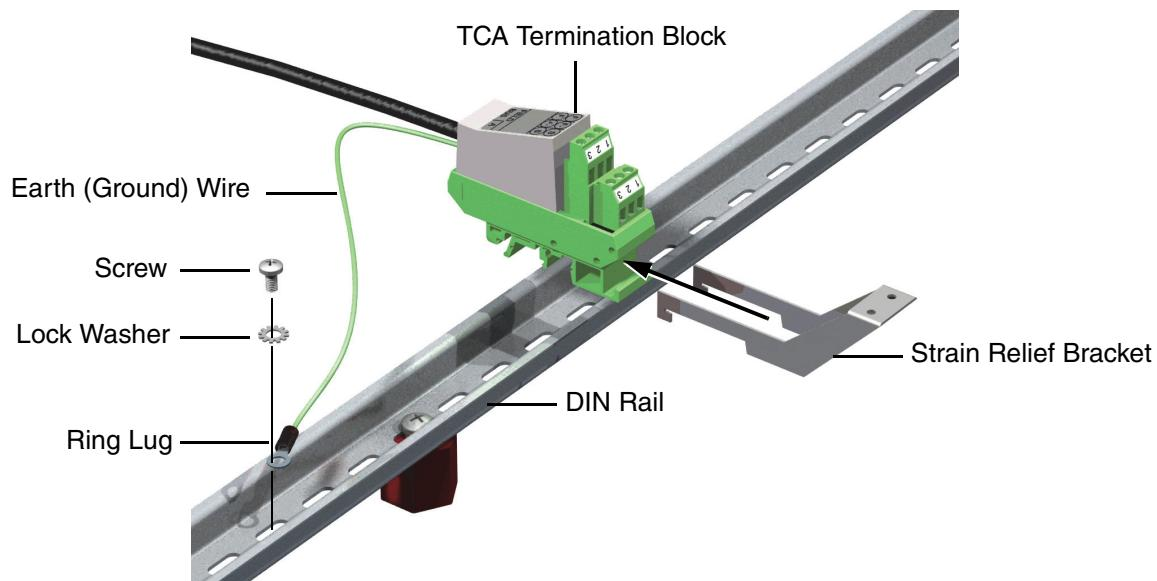

Figure 4-13. TCA Termination Block Assembly Mounting
1. Referring to Figure 4-13, assemble the termination blocks associated with the termination cable assemblies (P0903VY) for the FCP270 baseplate, snap them onto the mounting rails (DIN rails) in the enclosure, and connect the ground wires. (For future reference, Figure 4-14 illustrates how to remove the TCA termination blocks.)